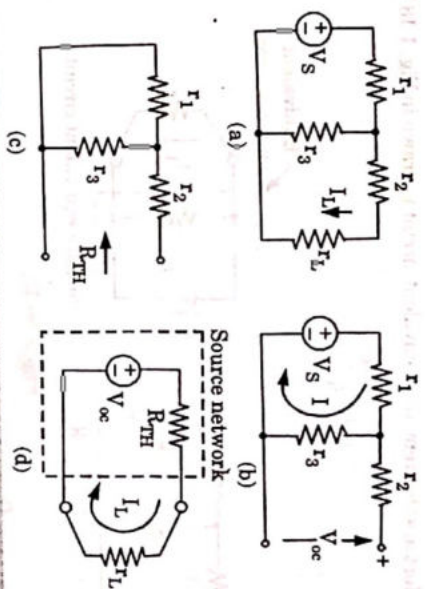

Fig. 1.17.1. (a) A simple DC circuit, (b) Finding of V_∞ (c) Finding of R_{TH} (d) Finding of I_L forming Thevenin's equivalent circuit.
1. Let us consider a simple DC circuit as shown in Fig. 1.17.1(a). We are to find I_L by Thevenin's theorem.
2. In order to find the equivalent voltage source, V_∞ is removed [Fig. 1.17.1(b)] and V_∞ is calculated
3. Now, to find the internal resistance of the network (Thevenin's resistance or equivalent resistance) in series with V_∞ , the voltage source is removed by a short circuit as shown in Fig. 1.17.1(c)
4. As per Thevenin's theorem, the equivalent circuit is shown in Fig. 1.17.1(d).